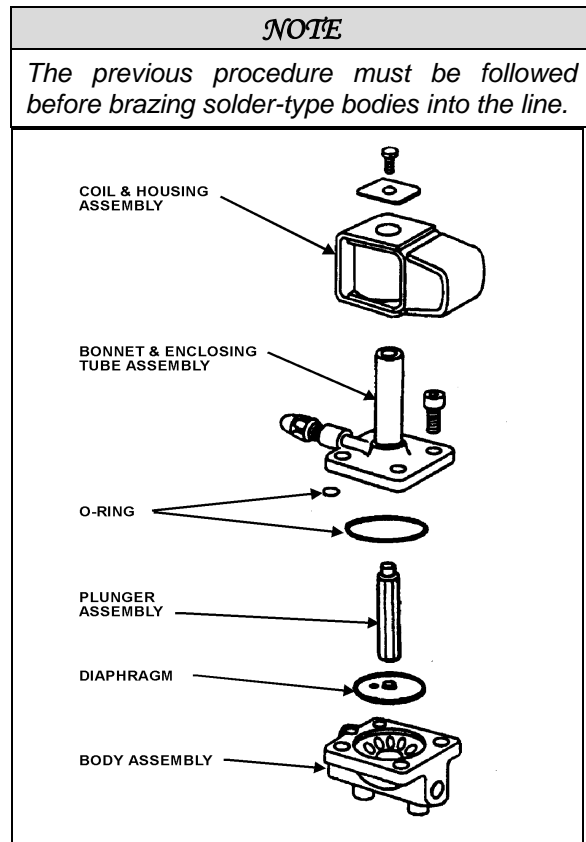

FIGURE 34: REFRIGERANT SOLENOID VALVE 22044
3. Remove the four socket head screws which hold the body and bonnet together (Figure 34).